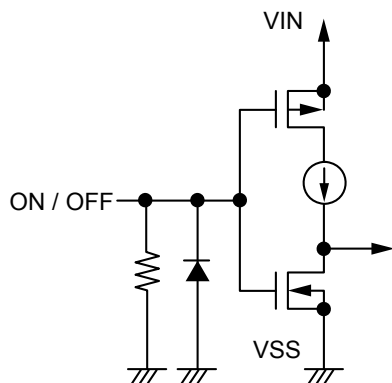
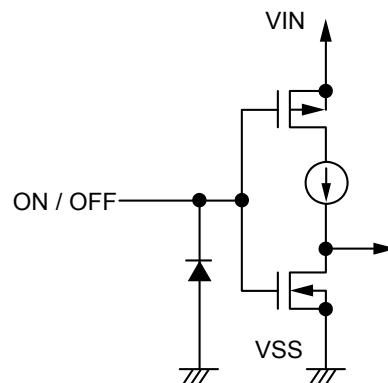

Figure 15 S-1312xxxH Series A / C Type
Figure 16 S-1312xxxH Series B / D Type
Note that the current consumption increases when a voltage of 0.25 V to $V_{IN} - 0.3$ V is applied to the ON / OFF pin. The ON / OFF pin is configured as shown in **Figure 15** and **Figure 16**.
*1. Note that the IC's current consumption increases as much as current flows into the pull-down resistor when the ON / OFF pin is connected to the VIN pin and the S-1312xxxH Series A / C type is operating (refer to **Figure 15**).